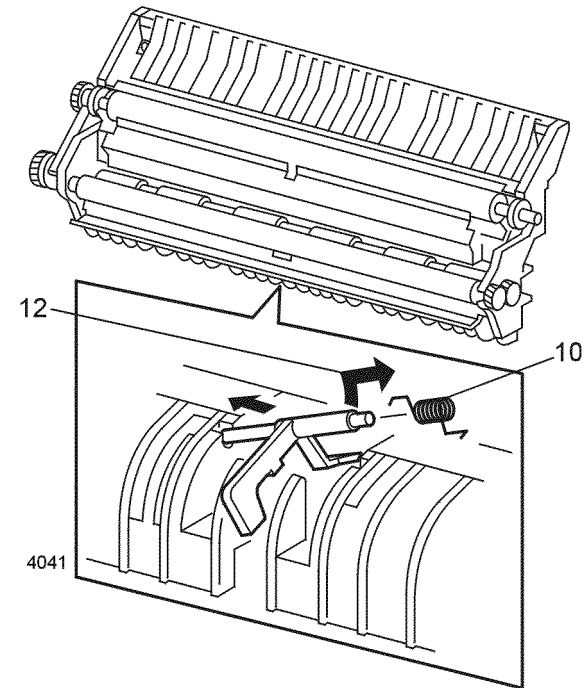

Figure 1 Registration Actuator
10. Note the position of the actuator spring (Figure 1).
12. Slide the Registration Actuator to the left to disengage the right end of the actuator (Figure 1). Pull the actuator up and out of the Paper Transport Assembly.